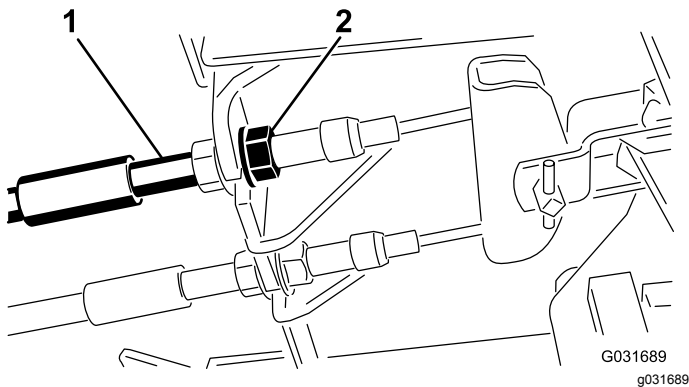

Figure 72
1. To reduce free travel of the brake pedals, tighten the brakes by loosening the front nut on the threaded end of the brake cable (Figure 72).